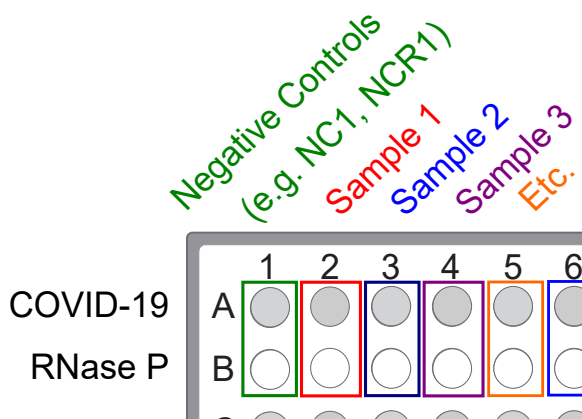

Figure 4 Paired sample and Negative Control wells for each assay
- b. Unseal the extraction plate, then add the first Negative Control from the single well of the extraction plate to wells A1 and B1 of the reaction plate, as shown in Figure 4 on page 56.